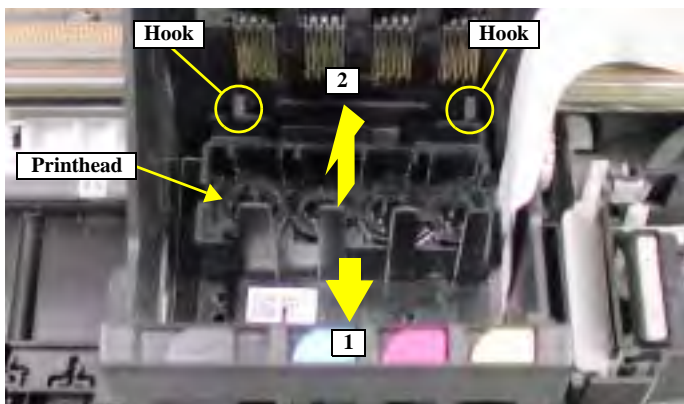

Figure 4-38. Printhead Removal 4
6. While avoiding 2 hooks, follow the order shown in Figure 4-38 to remove the Printhead from the Carriage Unit.